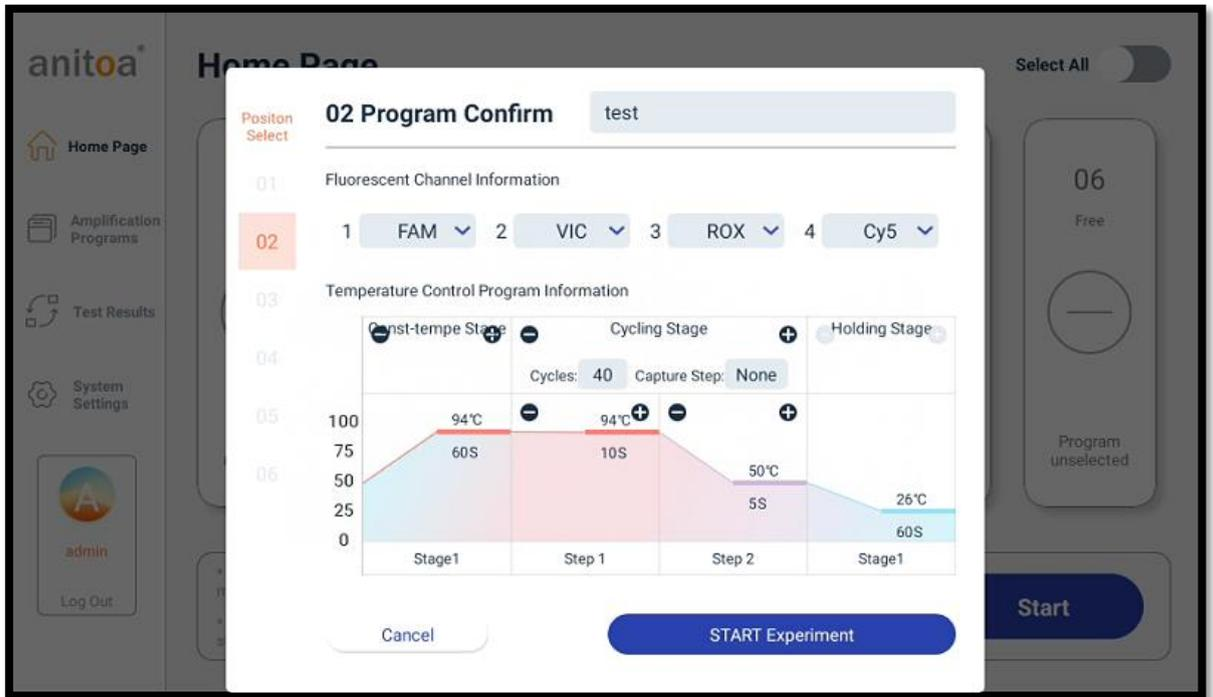

Figure 4-2-5 Confirm the amplification program
- 5) Confirm the amplification program: After selecting the program or creating a new program, enter the confirmation interface to see if you need to modify or save it, and click OK to carry out the experiment after confirming that there is no error. (Figure 4.2.5)